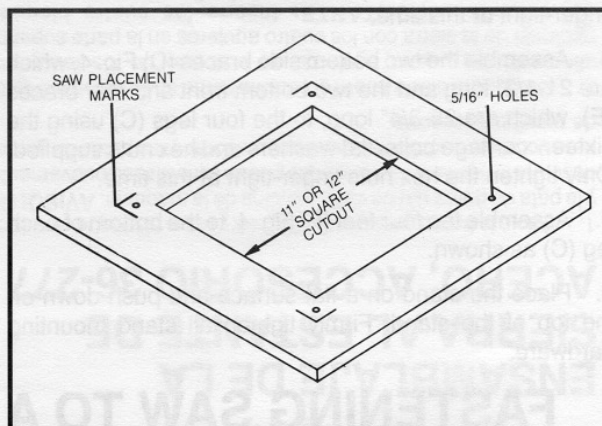

Fig. 7
2. Square the saw on the supporting surface and mark the location of the four 5/16" holes to be drilled, as shown in Fig. 7. Locate and mark an 11 or 12 inch square centered between the four mounting holes and cut out and remove the square, as shown in Fig. 7. This opening will allow sawdust to fall through the saw base.